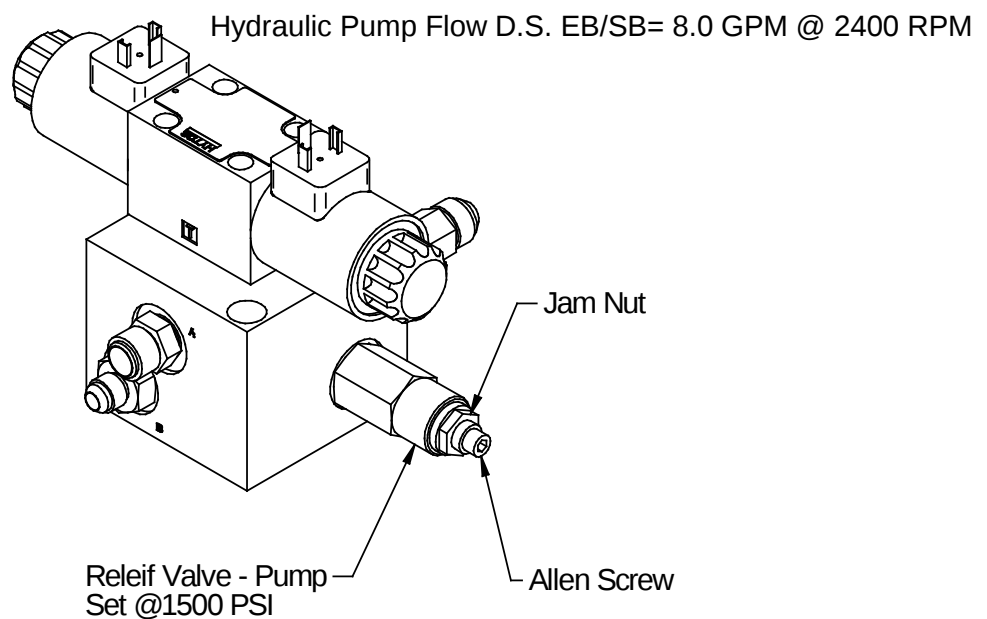

**Fig. 8.12 D.S. Pump Circuit Schematic**
**NOTE:** Use Fig. 8.12 D.S. Pump Circuit Schematic while troubleshooting the pump electrical system.